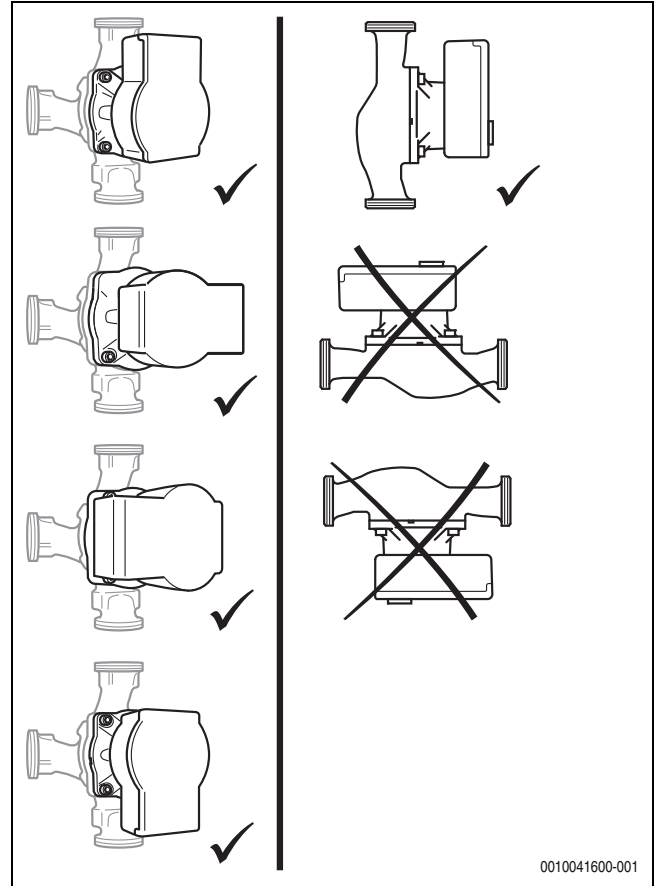

Fig. 31 Permitted installation position
- ▶ Select the installation point in line with the permissible installation position (→ fig. 31)